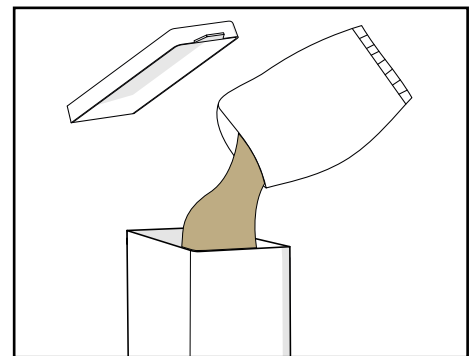

Figure 69.
4. Fill the canisters to **maximum three quarters** of the capacity (see Figure 69).